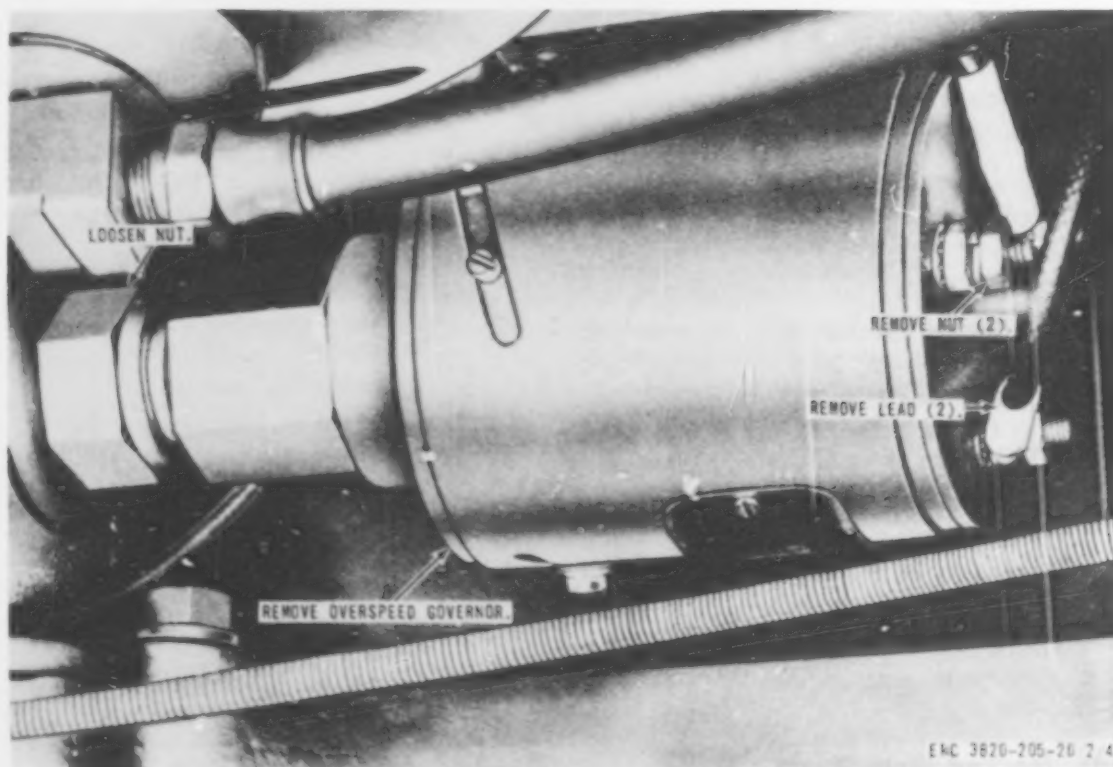

Figure 40. Overspeed governor, removal and installation.
a. Removal. Remove the overspeed governor from the engine as instructed on figure 40.
c. Installation. Install the overspeed governor on the engine in reverse of the instructions on figure 40.